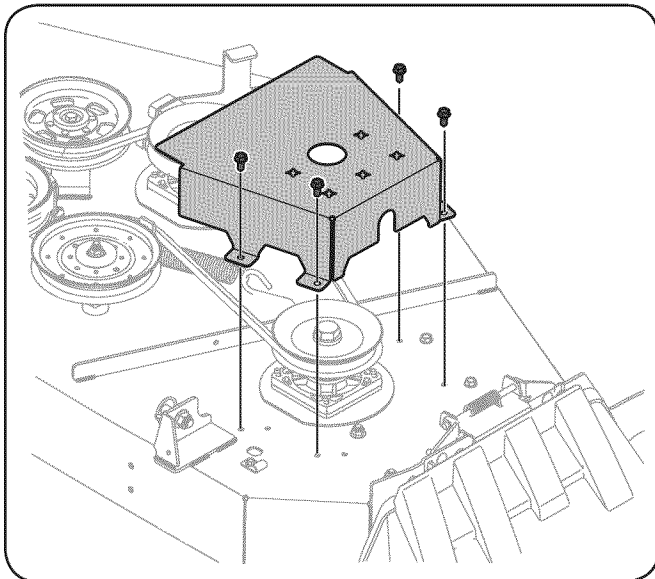

Figure 28
2. Remove the hex washer screws securing the belt covers to the deck. See Figure 28.
5. Install the new belt around the spindle pulleys as shown and reinstall the belt covers. See Figure 28.